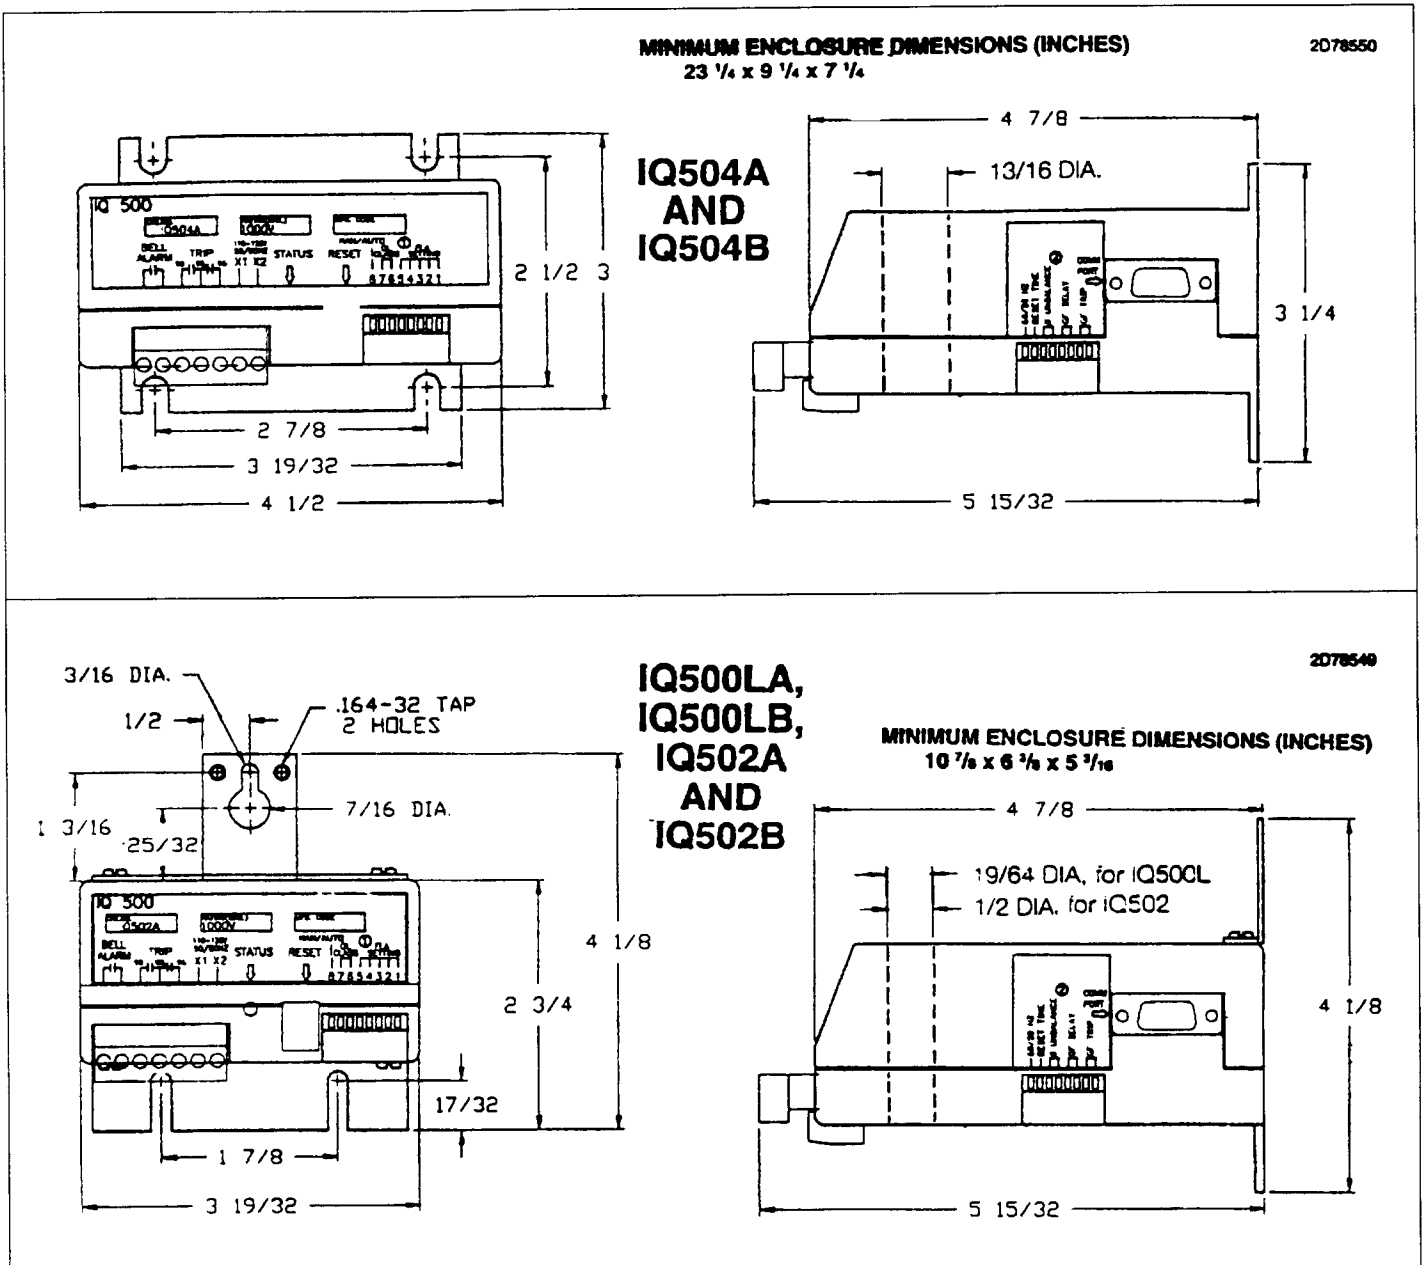

Fig. 5 Outline and Mounting Dimensions (dimensions in inches)
**2.3 Mounting** – An IQ-500 device is supplied for panel mounting (see Fig. 5 for dimensions). The IQ502 can be converted to mount on a Class A201 Size 1 or 2 contactor. Simply remove the metal mounting bracket from the relay base, rotate it 180 degrees, and reattach it to the relay base. Attach the mounting bracket to the contactor using the hardware included with the relay. The IQ504 can be converted to mount on a Class A201 Size 3 or 4 contactor by attaching the bracket provided.